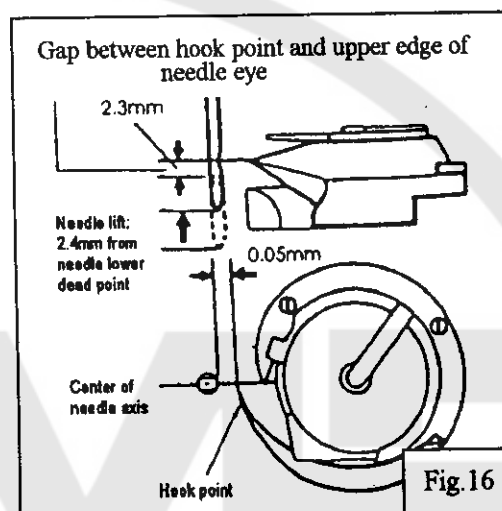

Fig.16
12. Timing between rotating hook motion and needle motion (Fig.16):